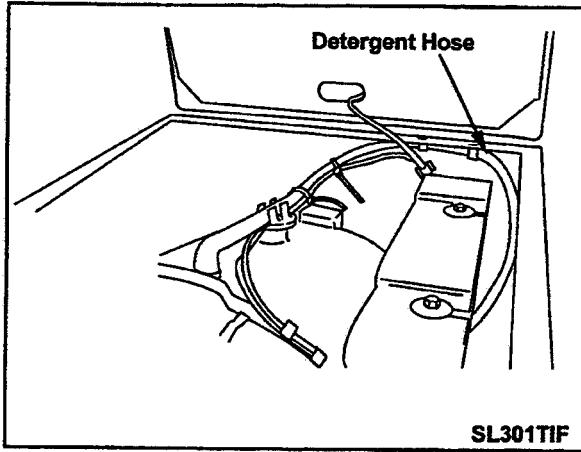

**Figure 2-30**
4. Follow the detergent hose vertically up to the air dome hose mounting bracket. The detergent hose is tucked behind the air dome hose (**Figure 2-30**).